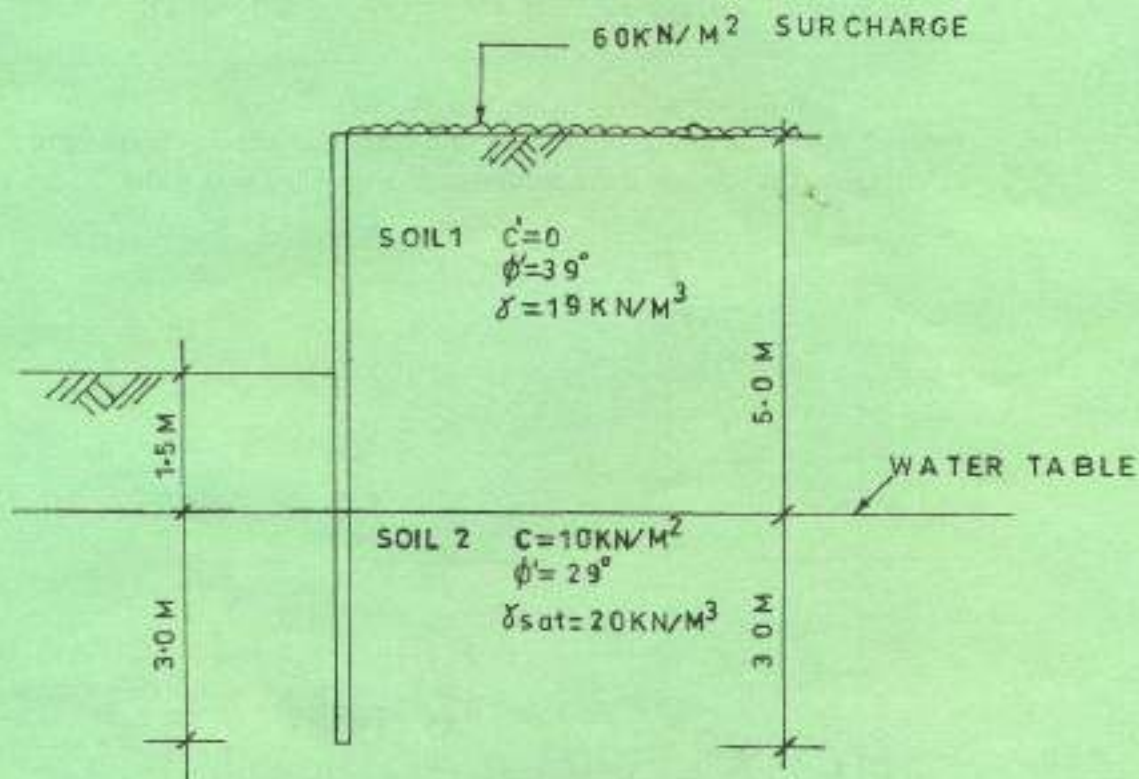

FIGURE 1
3. (a) Figure 1 shows the conditions of a pile driven through two soils strata.